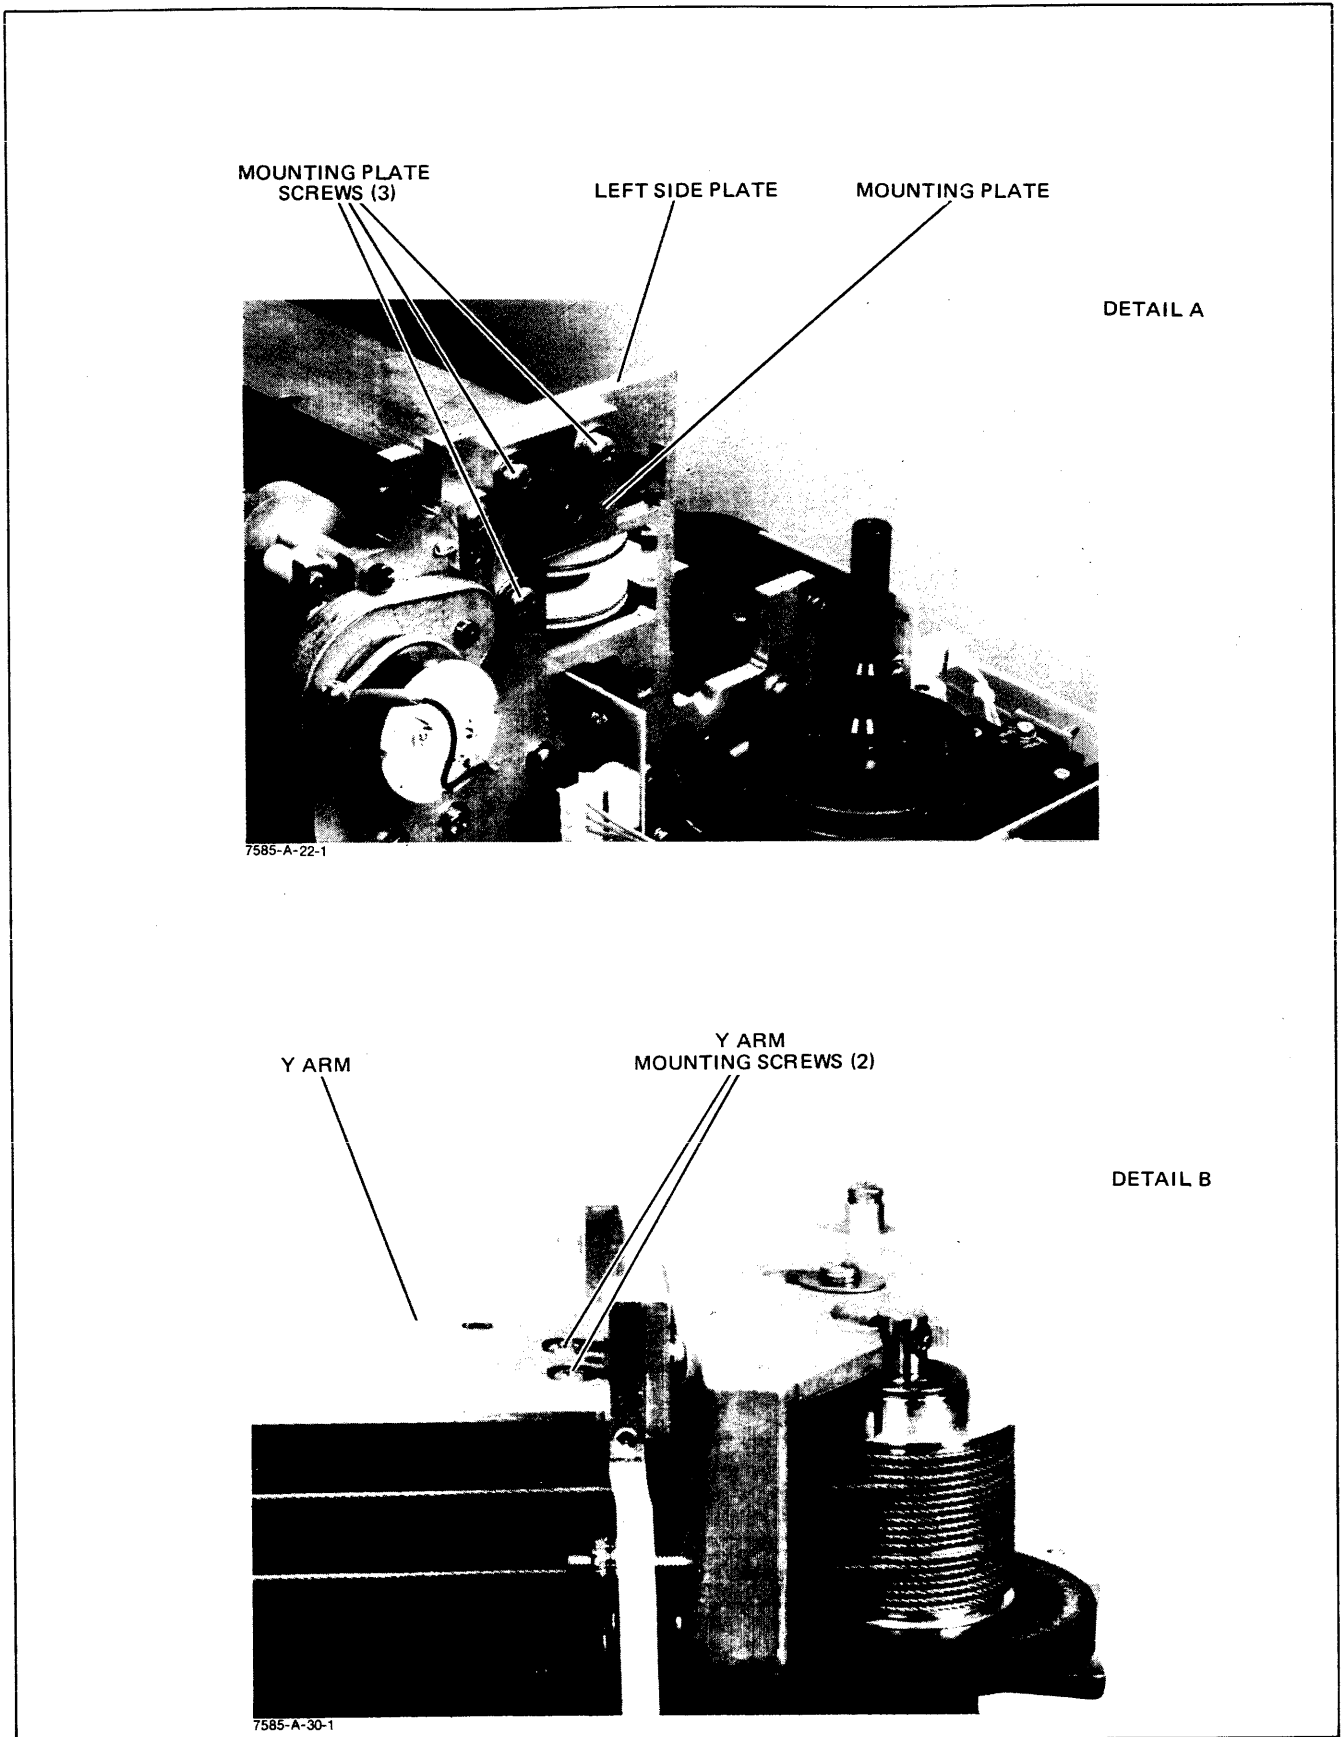

Figure 3-7. Y Arm Mounting
- b. Loosen the three screws securing the Y arm mounting plate to the left side plate. See Figure 3-7, Detail A.
- c. Loosen the two screws securing the right hand end of the Y arm to the right side plate. See Figure 3-7, Detail B. Position the pen holder in front of the left hand pinch wheel.
- i. To adjust the parallelism, press the left end of the Y arm forward against the setscrew and adjust the setscrew clockwise (CW) to move the left end of the Y arm backward or counterclockwise (CCW) to allow the Y arm to move forward.
- ag. Remove the two mounting screws securing the Y arm to the right side plate (see Figure 3-7, Detail B).
- ai. Remove the 3 mounting plate screws and remove the mounting plate (see Figure 3-7, Detail A).